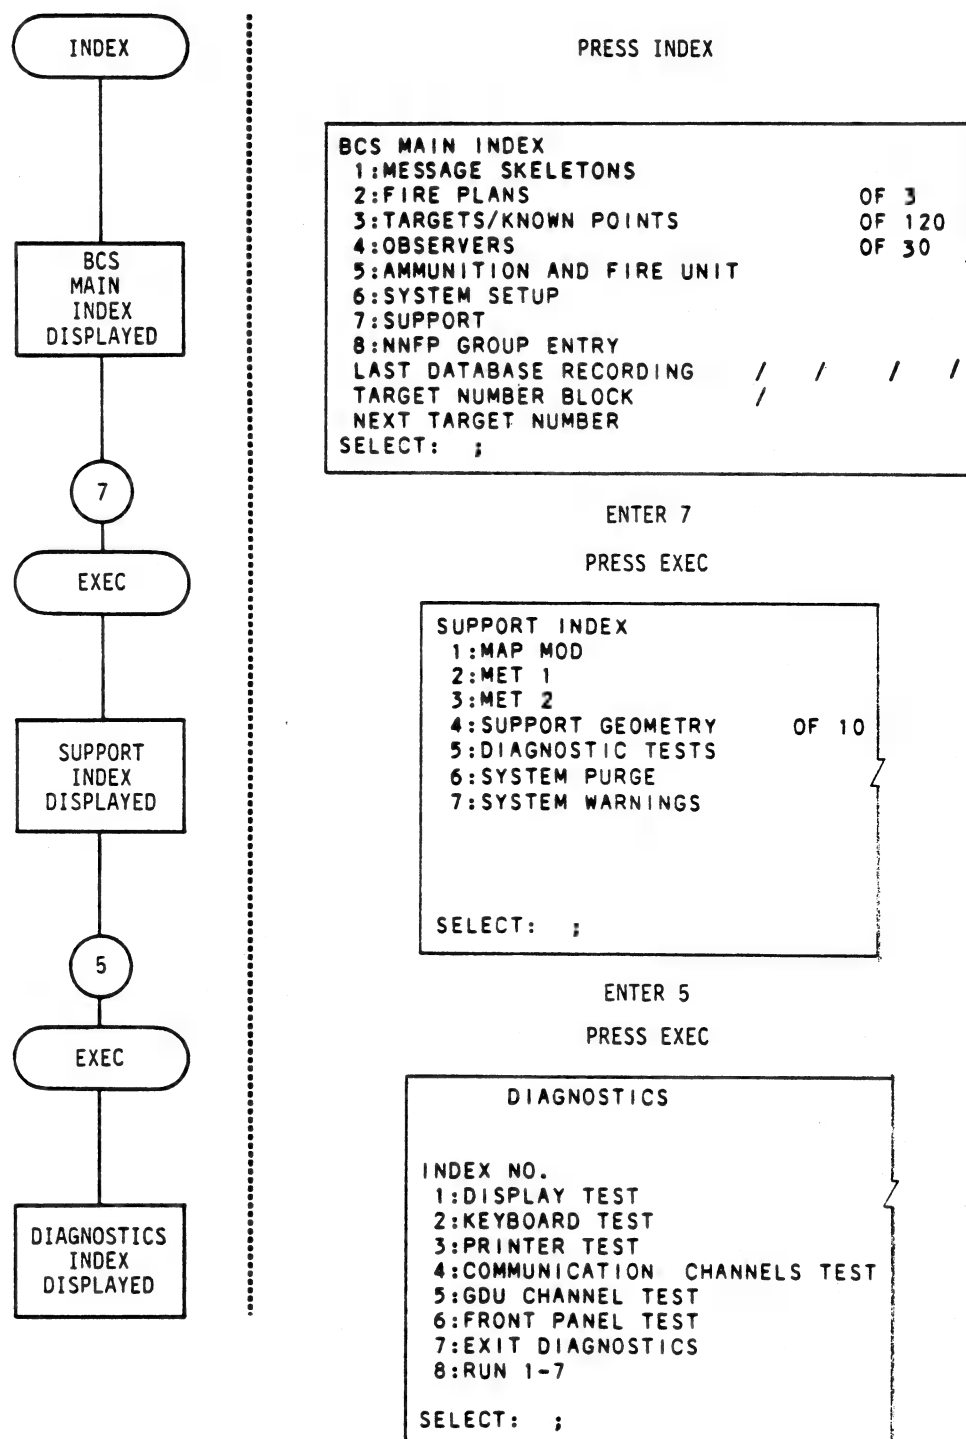

Figure 3-7. Displaying the DIAGNOSTICS index.
- . You display the DIAGNOSTICS index as shown in figure 3-7